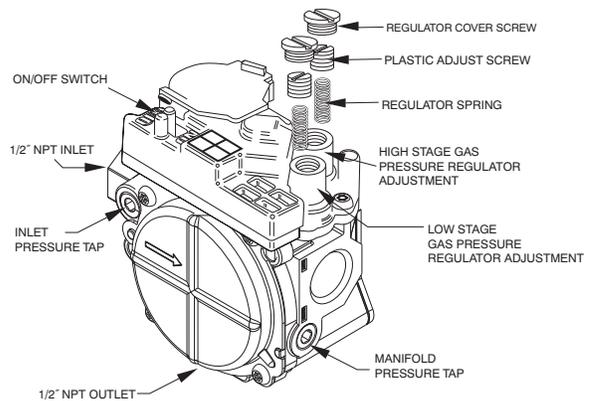

Fig. 45 - Redundant Automatic Gas Control Valve
3. Adjust manifold pressure to obtain low fire input rate. (See Fig. 45.)
- h. Remove regulator adjustment cap from low heat gas valve pressure regulator (See Fig. 45.) and turn low-heat adjusting screw (3/16 or smaller flat-tipped screwdriver) counterclockwise (out) to decrease input rate or clockwise (in) to increase input rate.
4. Adjust manifold pressure to obtain high fire input rate. (See Fig. 45.)
- b. Remove regulator adjustment cap from high-heat gas valve pressure regulator (See Fig. 45) and turn high heat adjusting screw (3/16-in. or smaller flat-tipped screwdriver) counterclockwise (out) to decrease input rate or clockwise (in) to increase input rate.